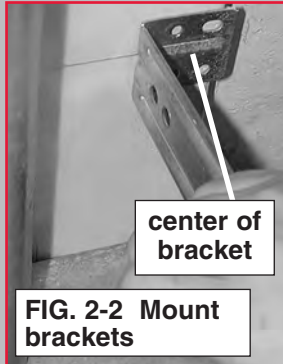

FIG. 2-2 Mount brackets
- Center bracket on your mark (Fig. 2-2).
- Fasten each with 2 screws (47) (Fig. 2-2).